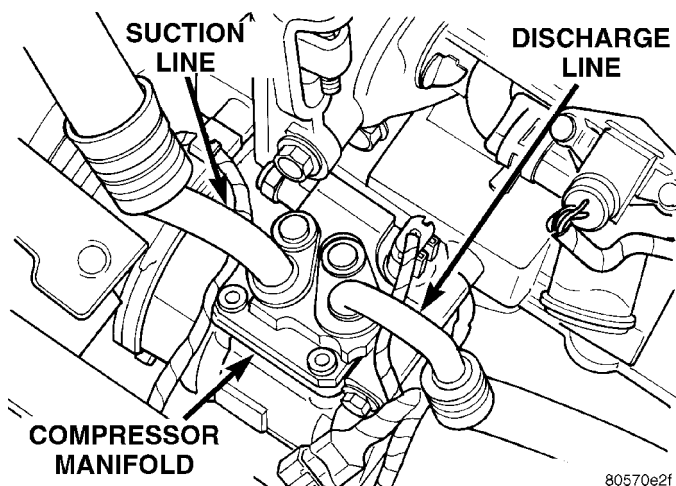

Fig. 29 Discharge Line
- (1) Using a R-134a refrigerant recovery machine, remove the refrigerant from A/C system.
- (2) From the top side of the vehicle, remove line at compressor (Fig. 29).
- (3) From the bottom side of the vehicle, remove line at condenser.